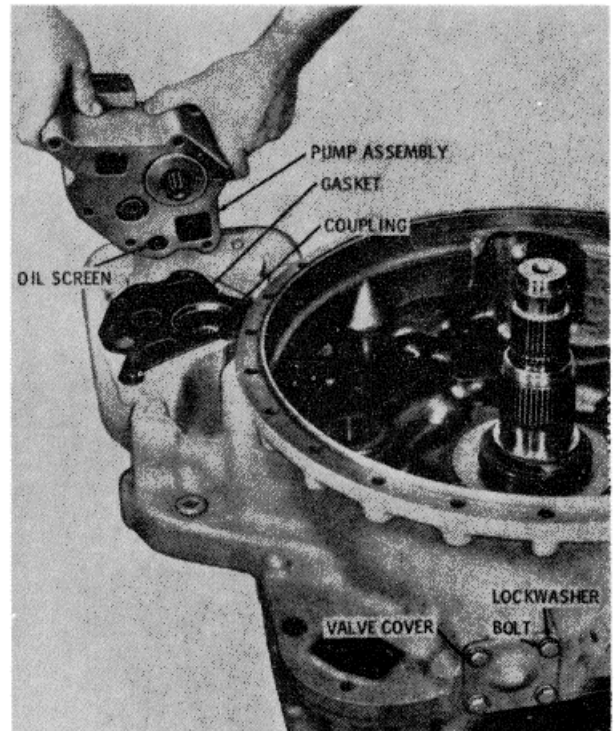

Figure 15-53. Removing Oil Pump Assembly
2. Remove six outer bolts and lockwashers from the oil pump assembly (Figure 15-53). Remove the pump assembly. Remove and discard the gasket. Remove the pump drive coupling. Remove the oil screen, if present, from the oil pump.